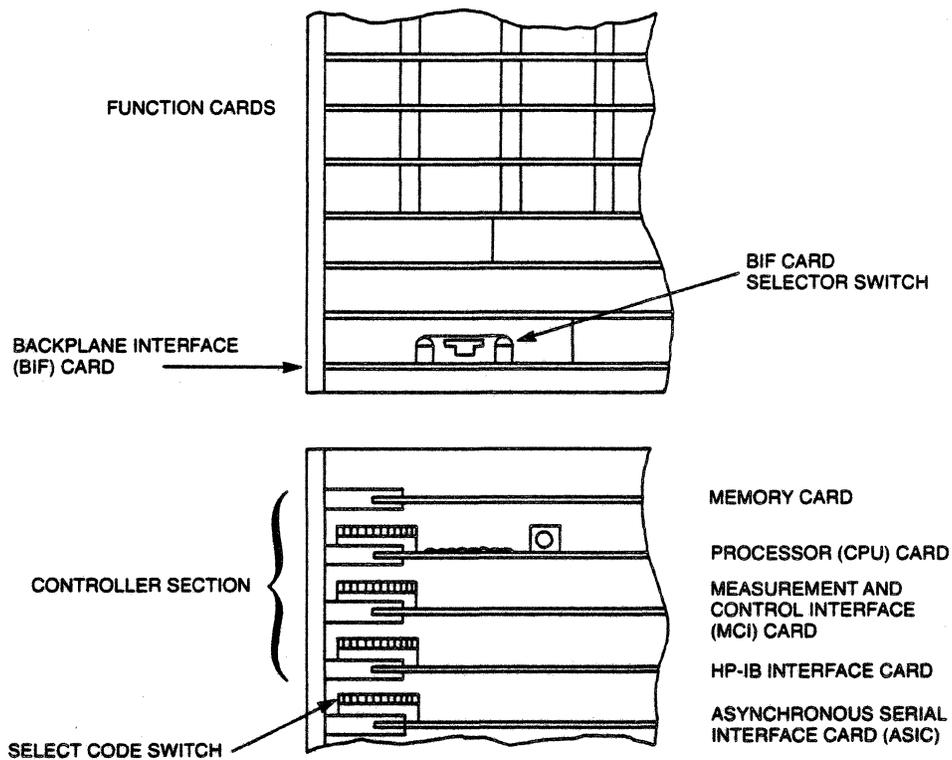

Figure 3-1. Location of Select Code Switches
3. The interface between the terminal and the HP 2250 is provided by an ASIC card and its cable. For the ASIC card to operate as the virtual control panel (VCP), set its switch U1S1 to the closed (down) position. Set U1S3 through U1S8 (S8 is the least significant bit) to octal 20. See figure 3-1 for the location of switch U1, the select code switch.